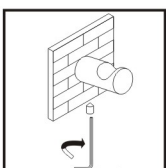

FIGURE 5
- Install post over bracket and secure with set screw. (FIGURE 5)